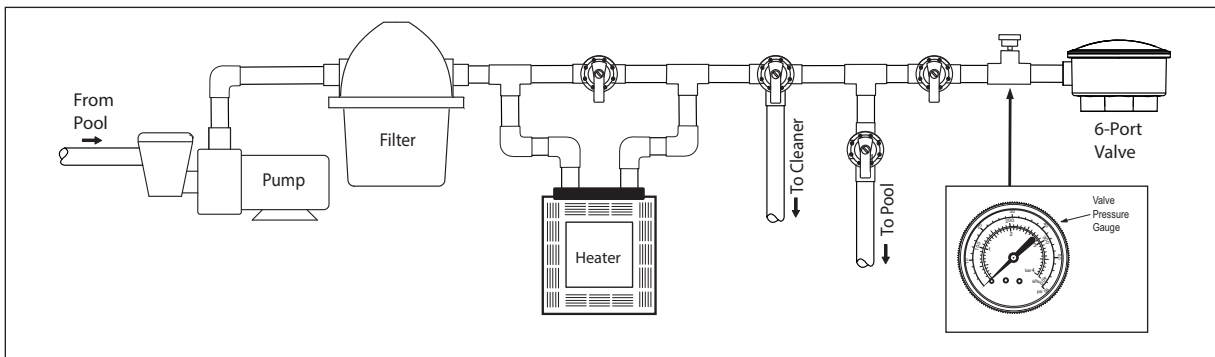

Figure 4. Example of a Plumbing Setup
**Automatic Pool Cleaners:** When using an automatic pool cleaner with the in-floor system, plumb the dedicated cleaner line (booster pump if applicable) before the valve (see Figure 4).